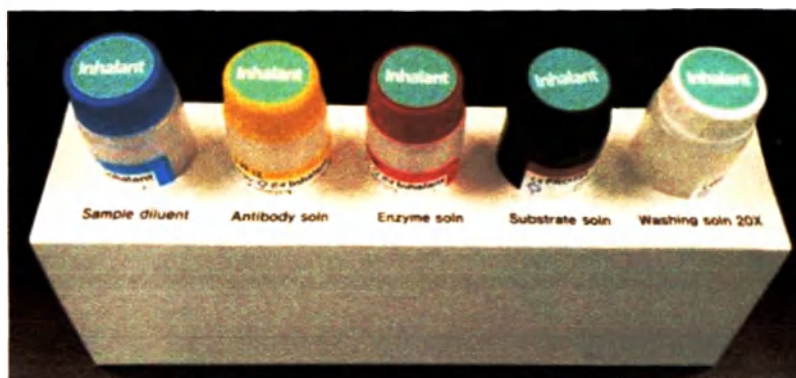

Figure 12
8.4 The analyzer is suitable for work with panels "PROTIA Allergy-Q Atopic panel", "PROTIA Allergy-Q 64 Respiratory panel", "PROTIA Allergy-Q 64 Food panel", "PROTIA Allergy-Q 96M panel" (Figure 12).